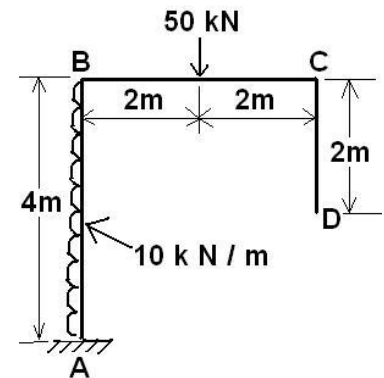

Fig. 4
- (b) Find horizontal deflection at point D for the frame shown in figure. 4 using any (07)
- (b) Find horizontal deflection at point C for the frame shown in figure. 4 using any (07)